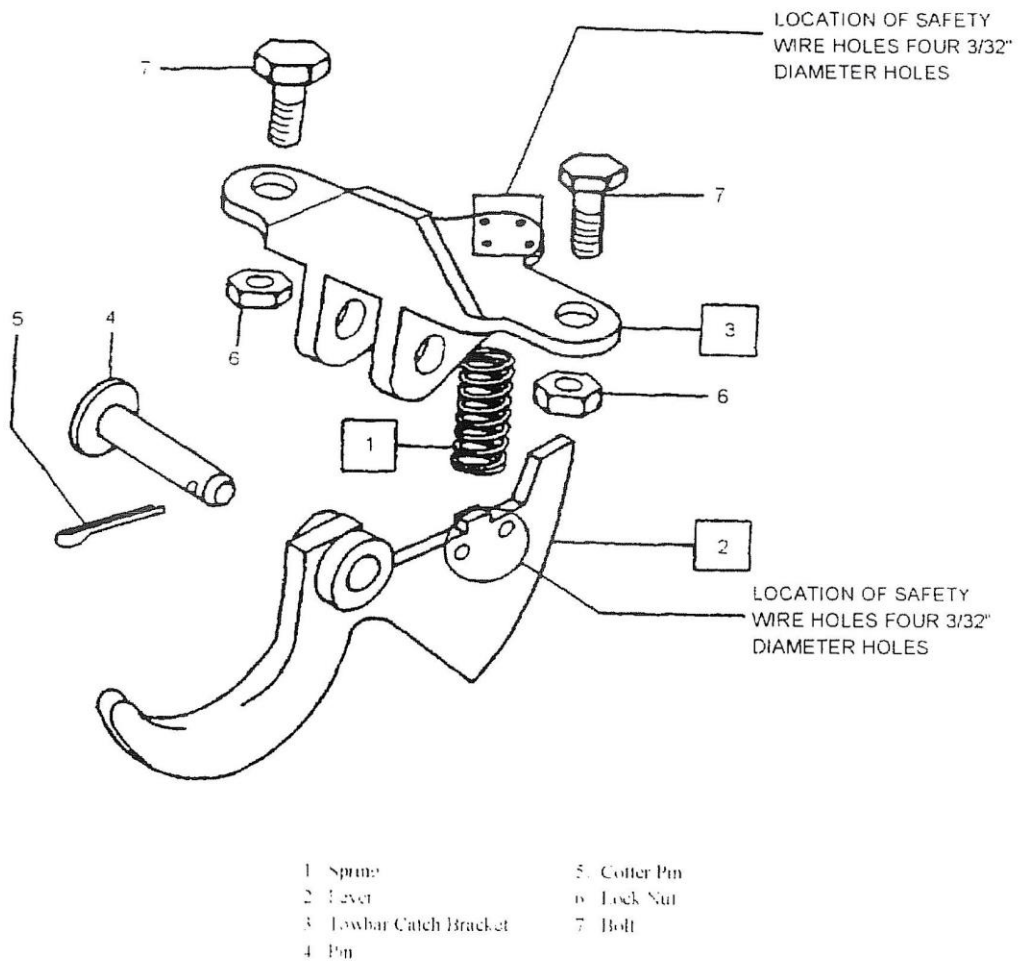

Figure 3-10. Towbar Catch Assembly
The following steps refer to Figure 3-10.
- (1) Drill Towbar Catch Lever.
- (a) Mount lever (2) securely in vise.
- (c) Drill two 3/32 inch diameter holes at specified location as shown in Figure 3-10.
- (2) Drill Towbar Catch Bracket.
- (a) Mount bracket (3) securely in vise.
- (c) Drill four 3/32 inch diameter holes at specified location as shown in Figure 3-10.
- (1) Align towbar catch lever (2) into position with towbar catch bracket (3) and install pin (4) and cotter pin (5).
- (2) Install spring (1).
- (3) Safety wire spring.
- (b) Safety wire the spring (1) to both the towbar catch lever (2) and bracket (3). Thread the safety wire through the holes to create an X over the top of the nipple, making sure you go through the spring.